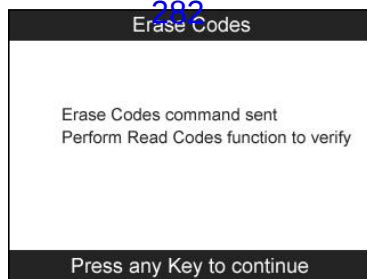

Figure 4.28
- 3) If the erase command is sent successfully, the screen will show as below (Figure 4.28). Press any button to continue. To make sure codes are erased clearly, run **Read Codes** again.